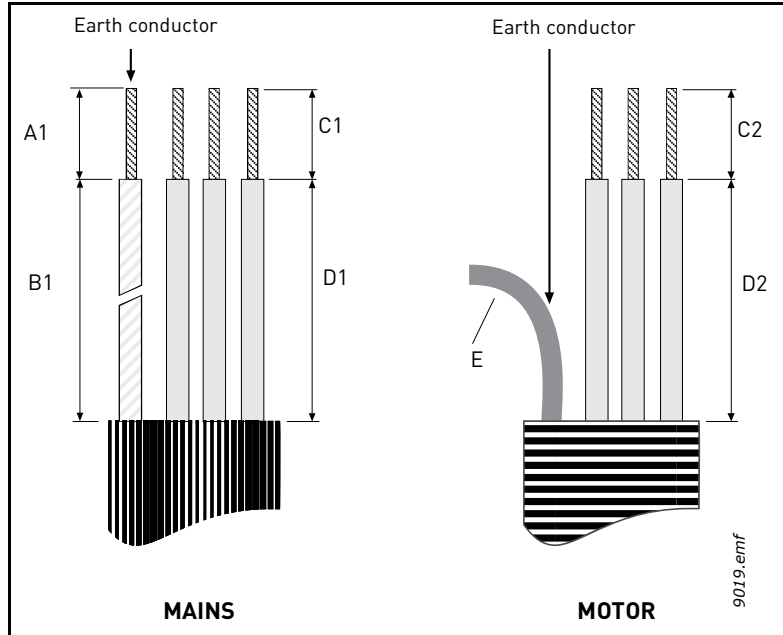
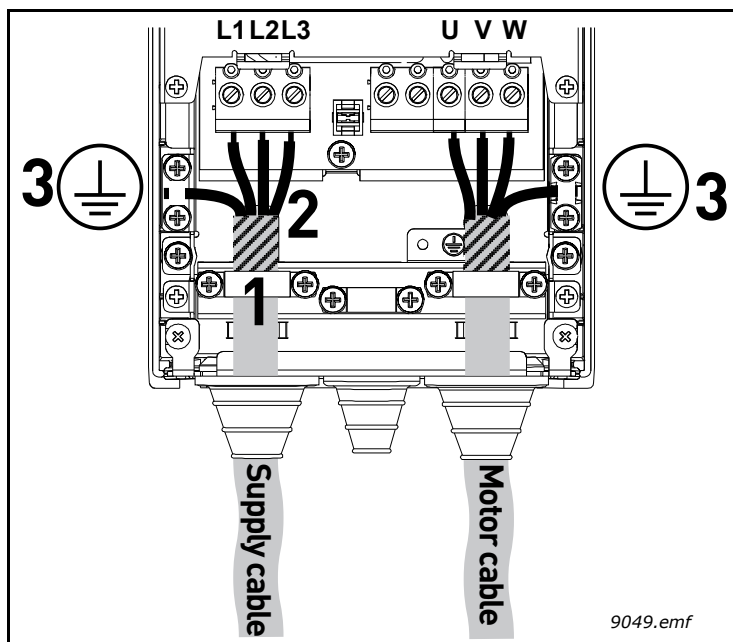

Figure 22. Stripping of cables
Figure 29.
- Connect the stripped cables (see Figure 22 and Table) as shown in Figure 29.
- Expose the shield of all three cables in order to make a 360-degree connection with the cable clamp (1).
- Connect the (phase) conductors of the supply and motor cables into their respective terminals (2).
- Form the rest of the cable shield of all three cables into “pigtails” and make a grounding connection with a clamp as shown in Figure 29 (3). Make the pigtails **just long enough** to reach and be fixed to the terminal - not longer.